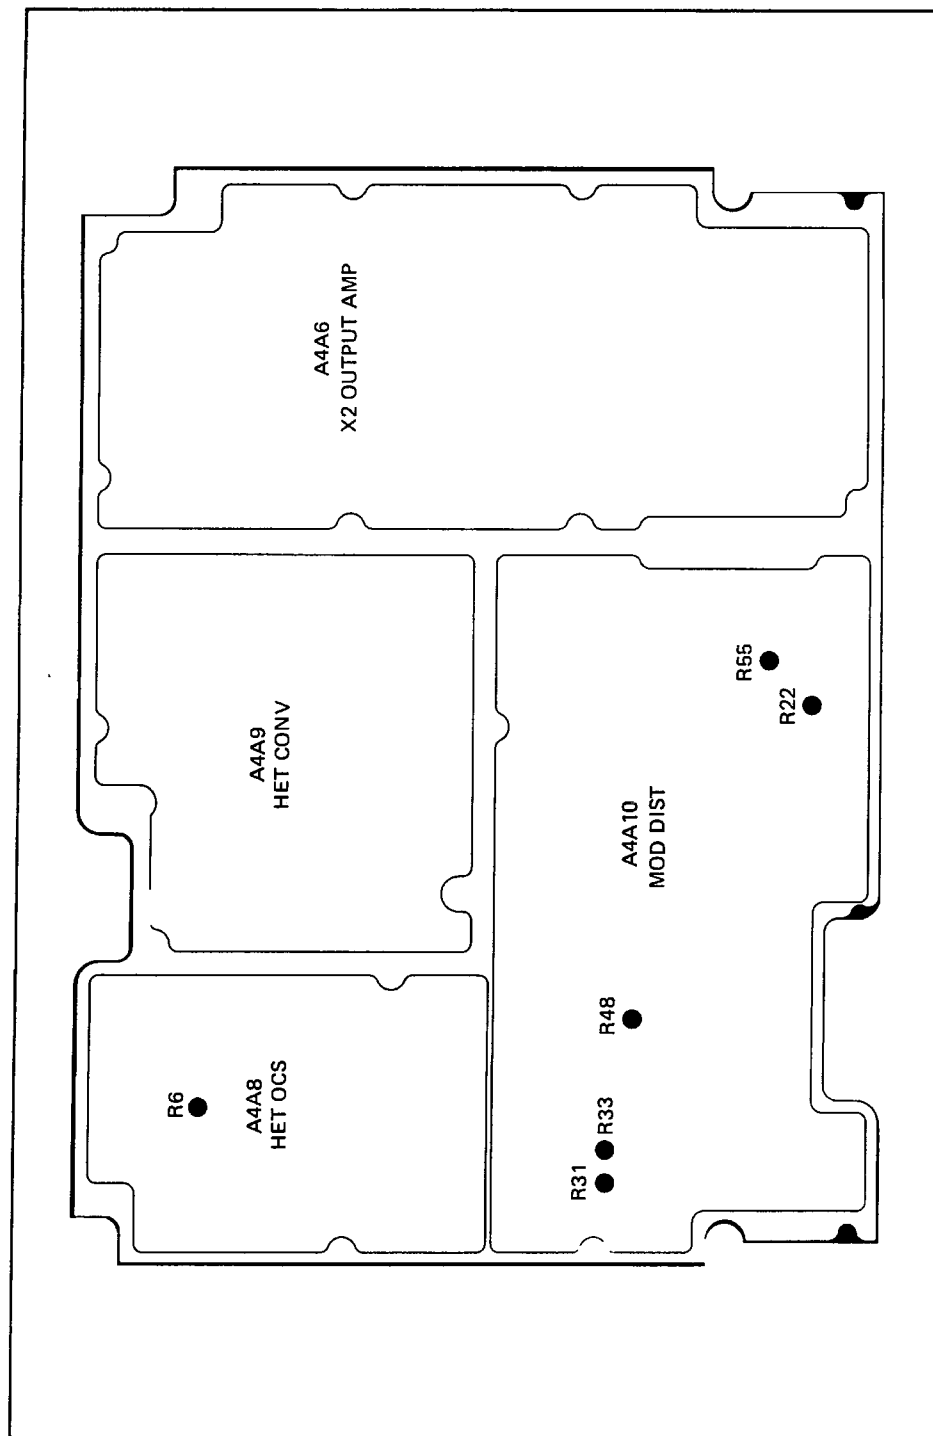

Figure 6-5. FM/8M Adjustments - Output Plate
4. Adjust R33 on the A4A10 Mod Distribution PCB (Figure 6-5) for a reading of 100.1 kHz on the Modulation Analyzer.
6. Adjust R31 on the Mod Distribution PCB (Figure 6-5) for a reading of 100.1 kHz on the Modulation Analyzer.
15. Adjust R48 on the Mod Distribution PCB (Figure 6-5) so that the readings in Steps 13 and 14 are symmetrical about 100.1 kHz. (It will be necessary to shift in and out of the HI DEV Mode (special functions 20 and 21) in order to make this adjustment).
17. Program the UUT Modulation Frequency to 1 kHz and turn on the INT FM/ØM control. Adjust R6 on the A4A2 Mod Oscillator PCB (Figure 6-5) so that the Modulation Analyzer reading is the same as the reading recorded in Step 16.
4. Allow the Modulation Analyzer to settle, and record the settled reading. Press -PEAK and record the new reading. Adjust R22 on the A4A10 Mod Distribution PCB (Figure 6-5) so that the readings are symmetrical about 70.0% AM. Press +PEAK and -PEAK as necessary for new readings.
8. Adjust R55 on the A4A10 Mod Distribution PCB (Figure 6-5) for a reading of approximately +5 dBm on the Power Meter.